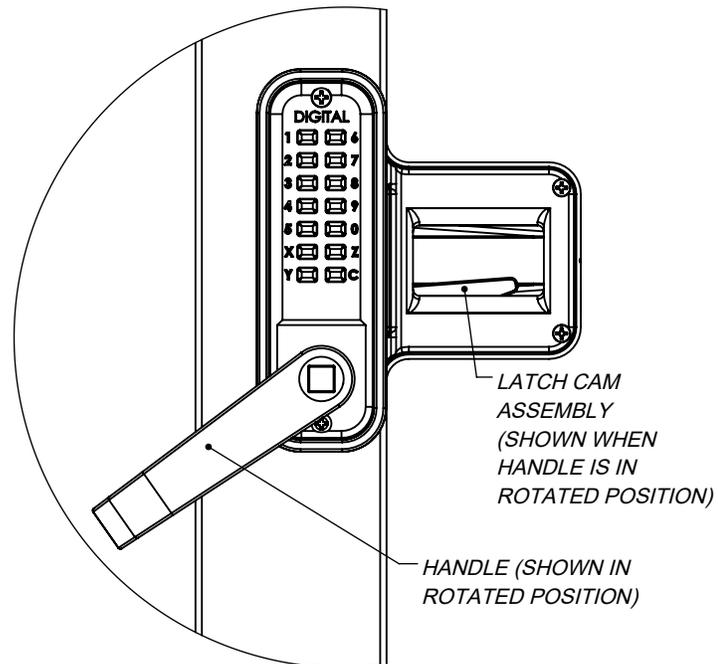

Figure 16
7) Test the 2835 and Adapter Housing for proper function. Enter the code for the 2835 outside body and rotate the handle down. Turning the handle should rotate the Latch Cam Assembly, which can be seen through the rectangular hole in the inside face of the Adapter Housing. Releasing the handle should lower the Latch Cam Assembly back into the neutral position. Repeat this test for the 2835 inside body (Figure 16).